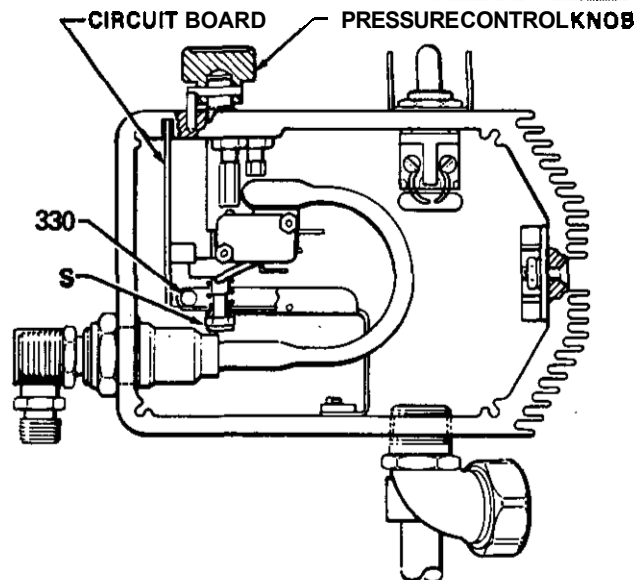

Fig 20
## CIRCUIT BOARD REPLACEMENT (See Figs 20 & 21)
2. Turn the pressure control knob all the way counter-clockwise to the minimum setting to release spring tension on the board. **Also** check to be sure only three or four threads of the pressure control knob shaft are exposed below the pressure adjustment nut (S). Back down the nut, if necessary. See Fig 20.